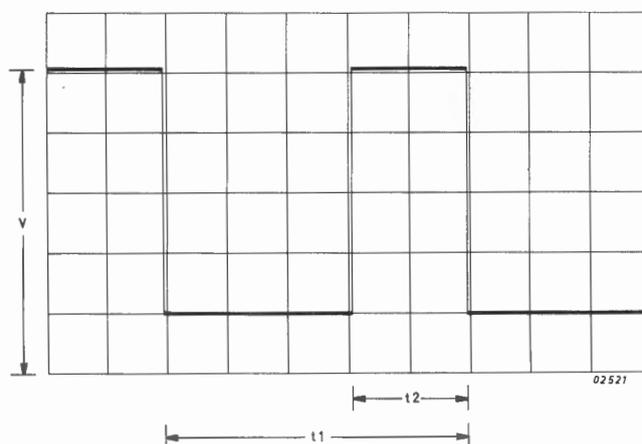

Figure 8.3 HORIZONTAL SYNC. TIMING
Horizontal Deflection Circuit (figure 8.3)
- c. Switch on supply and character generator wait 30S warm-up period. Observe waveform on oscilloscope (see figure 8.3).